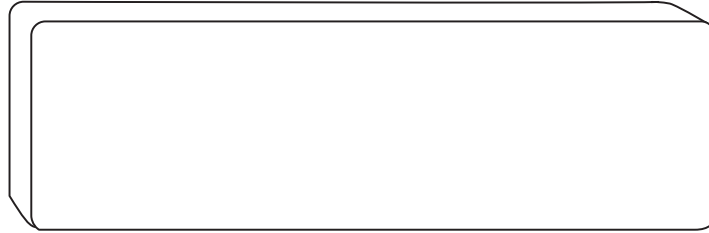

Figure 3 Correct Tag Orientation
2. Hold the tag so that the printed text or image is right side up and facing toward you (Figure 3). Press the tag against the windshield and hold for 10 seconds.
1. Hold the tag so that the printed text or image is right side up and facing toward you (Figure 3).